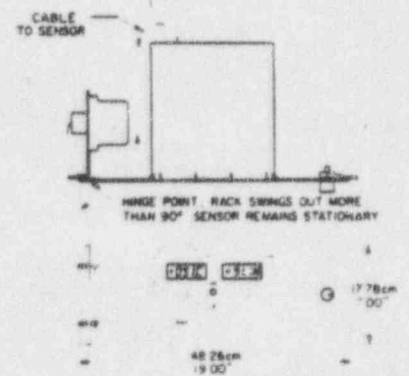

FIGURE 1-10. MODEL 911-PR PANEL/RACK MOUNTING KIT ACCESSORY
1.2.8 Model 911-PR Panel/Rack Mounting Kit Accessory (Figure 1-10)